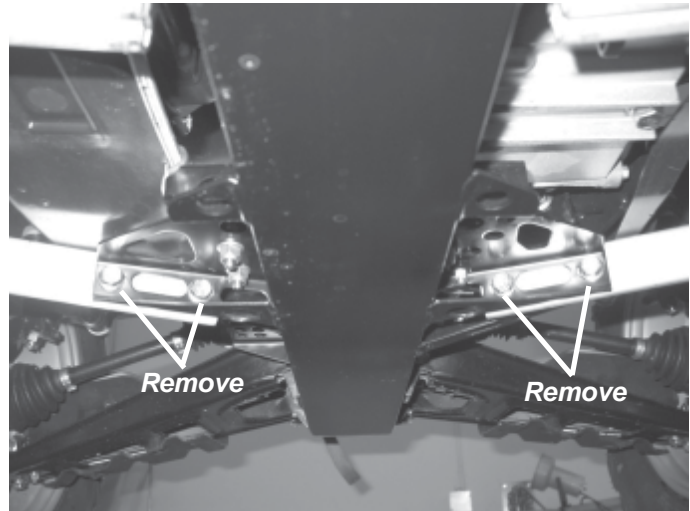

Figure 1 - Remove Bolts
1. Remove the four bolts as shown in figure 1.